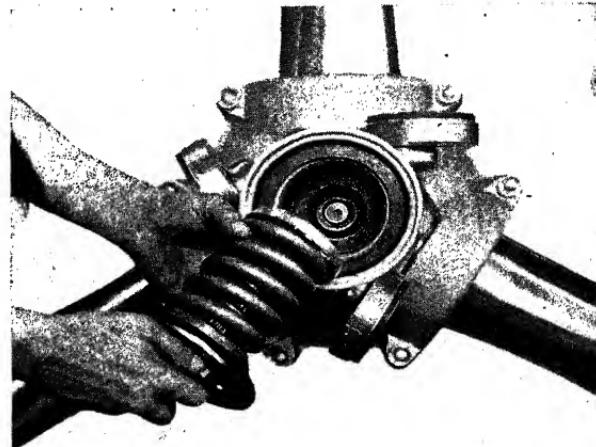

FIG. 9.—Inserting a coil spring in a propeller hub.
17. Insert the complete spring assembly in the piston and tighten the piston gasket nut (see Fig. 9). Use a bar approximately 2 ft. long.